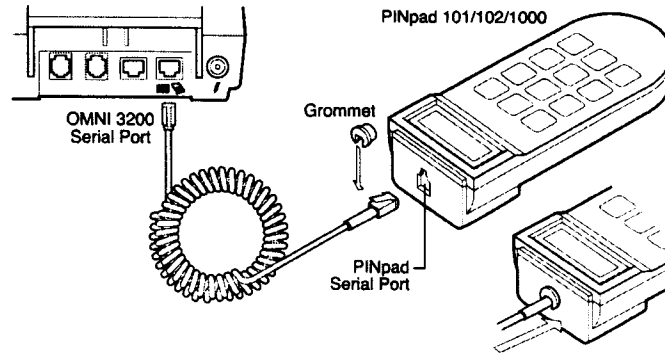
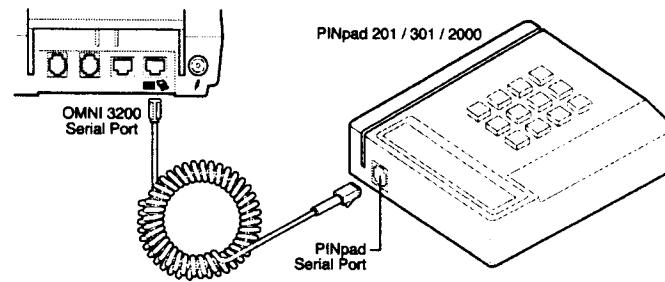

Figure 9 PINpad 101/102/1000 Connection
Figure 10 PINpad 201/301/2000 Connection
To connect a PINpad to the OMNI 3200 terminal (see Figure 9 and Figure 10):
2. If you are installing a PINpad 101, PINpad 201, or PINpad 1000, position and insert the grommet to secure the cable connection, as shown in Figure 9.